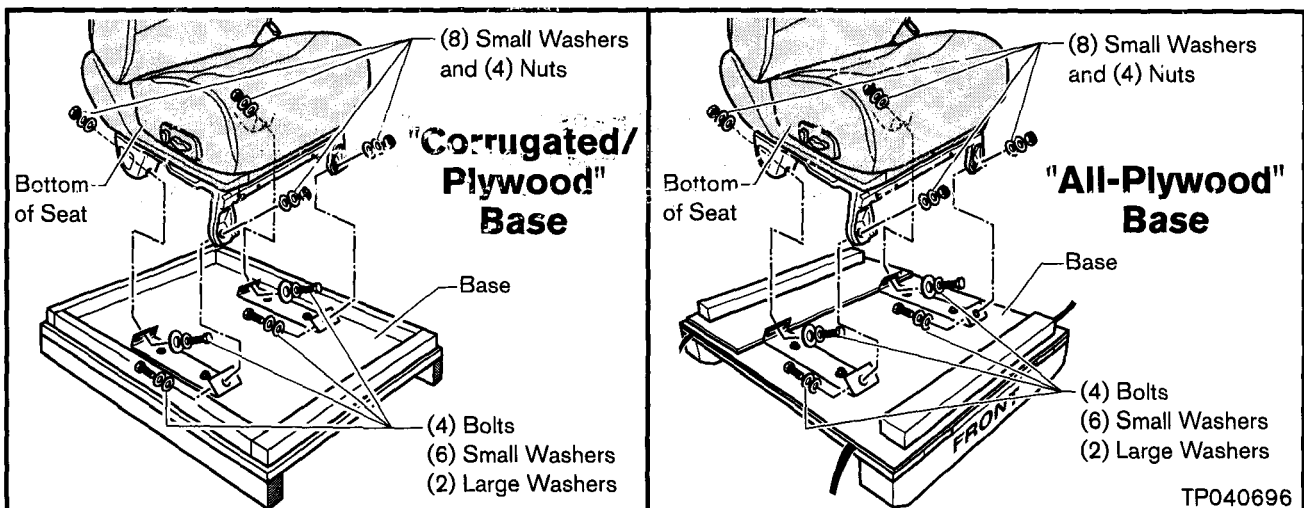

Figure 10
b. Mount the seat to the Base of the Seat Packaging Crate with the provided nuts, bolts, and washers (see Figure 10).